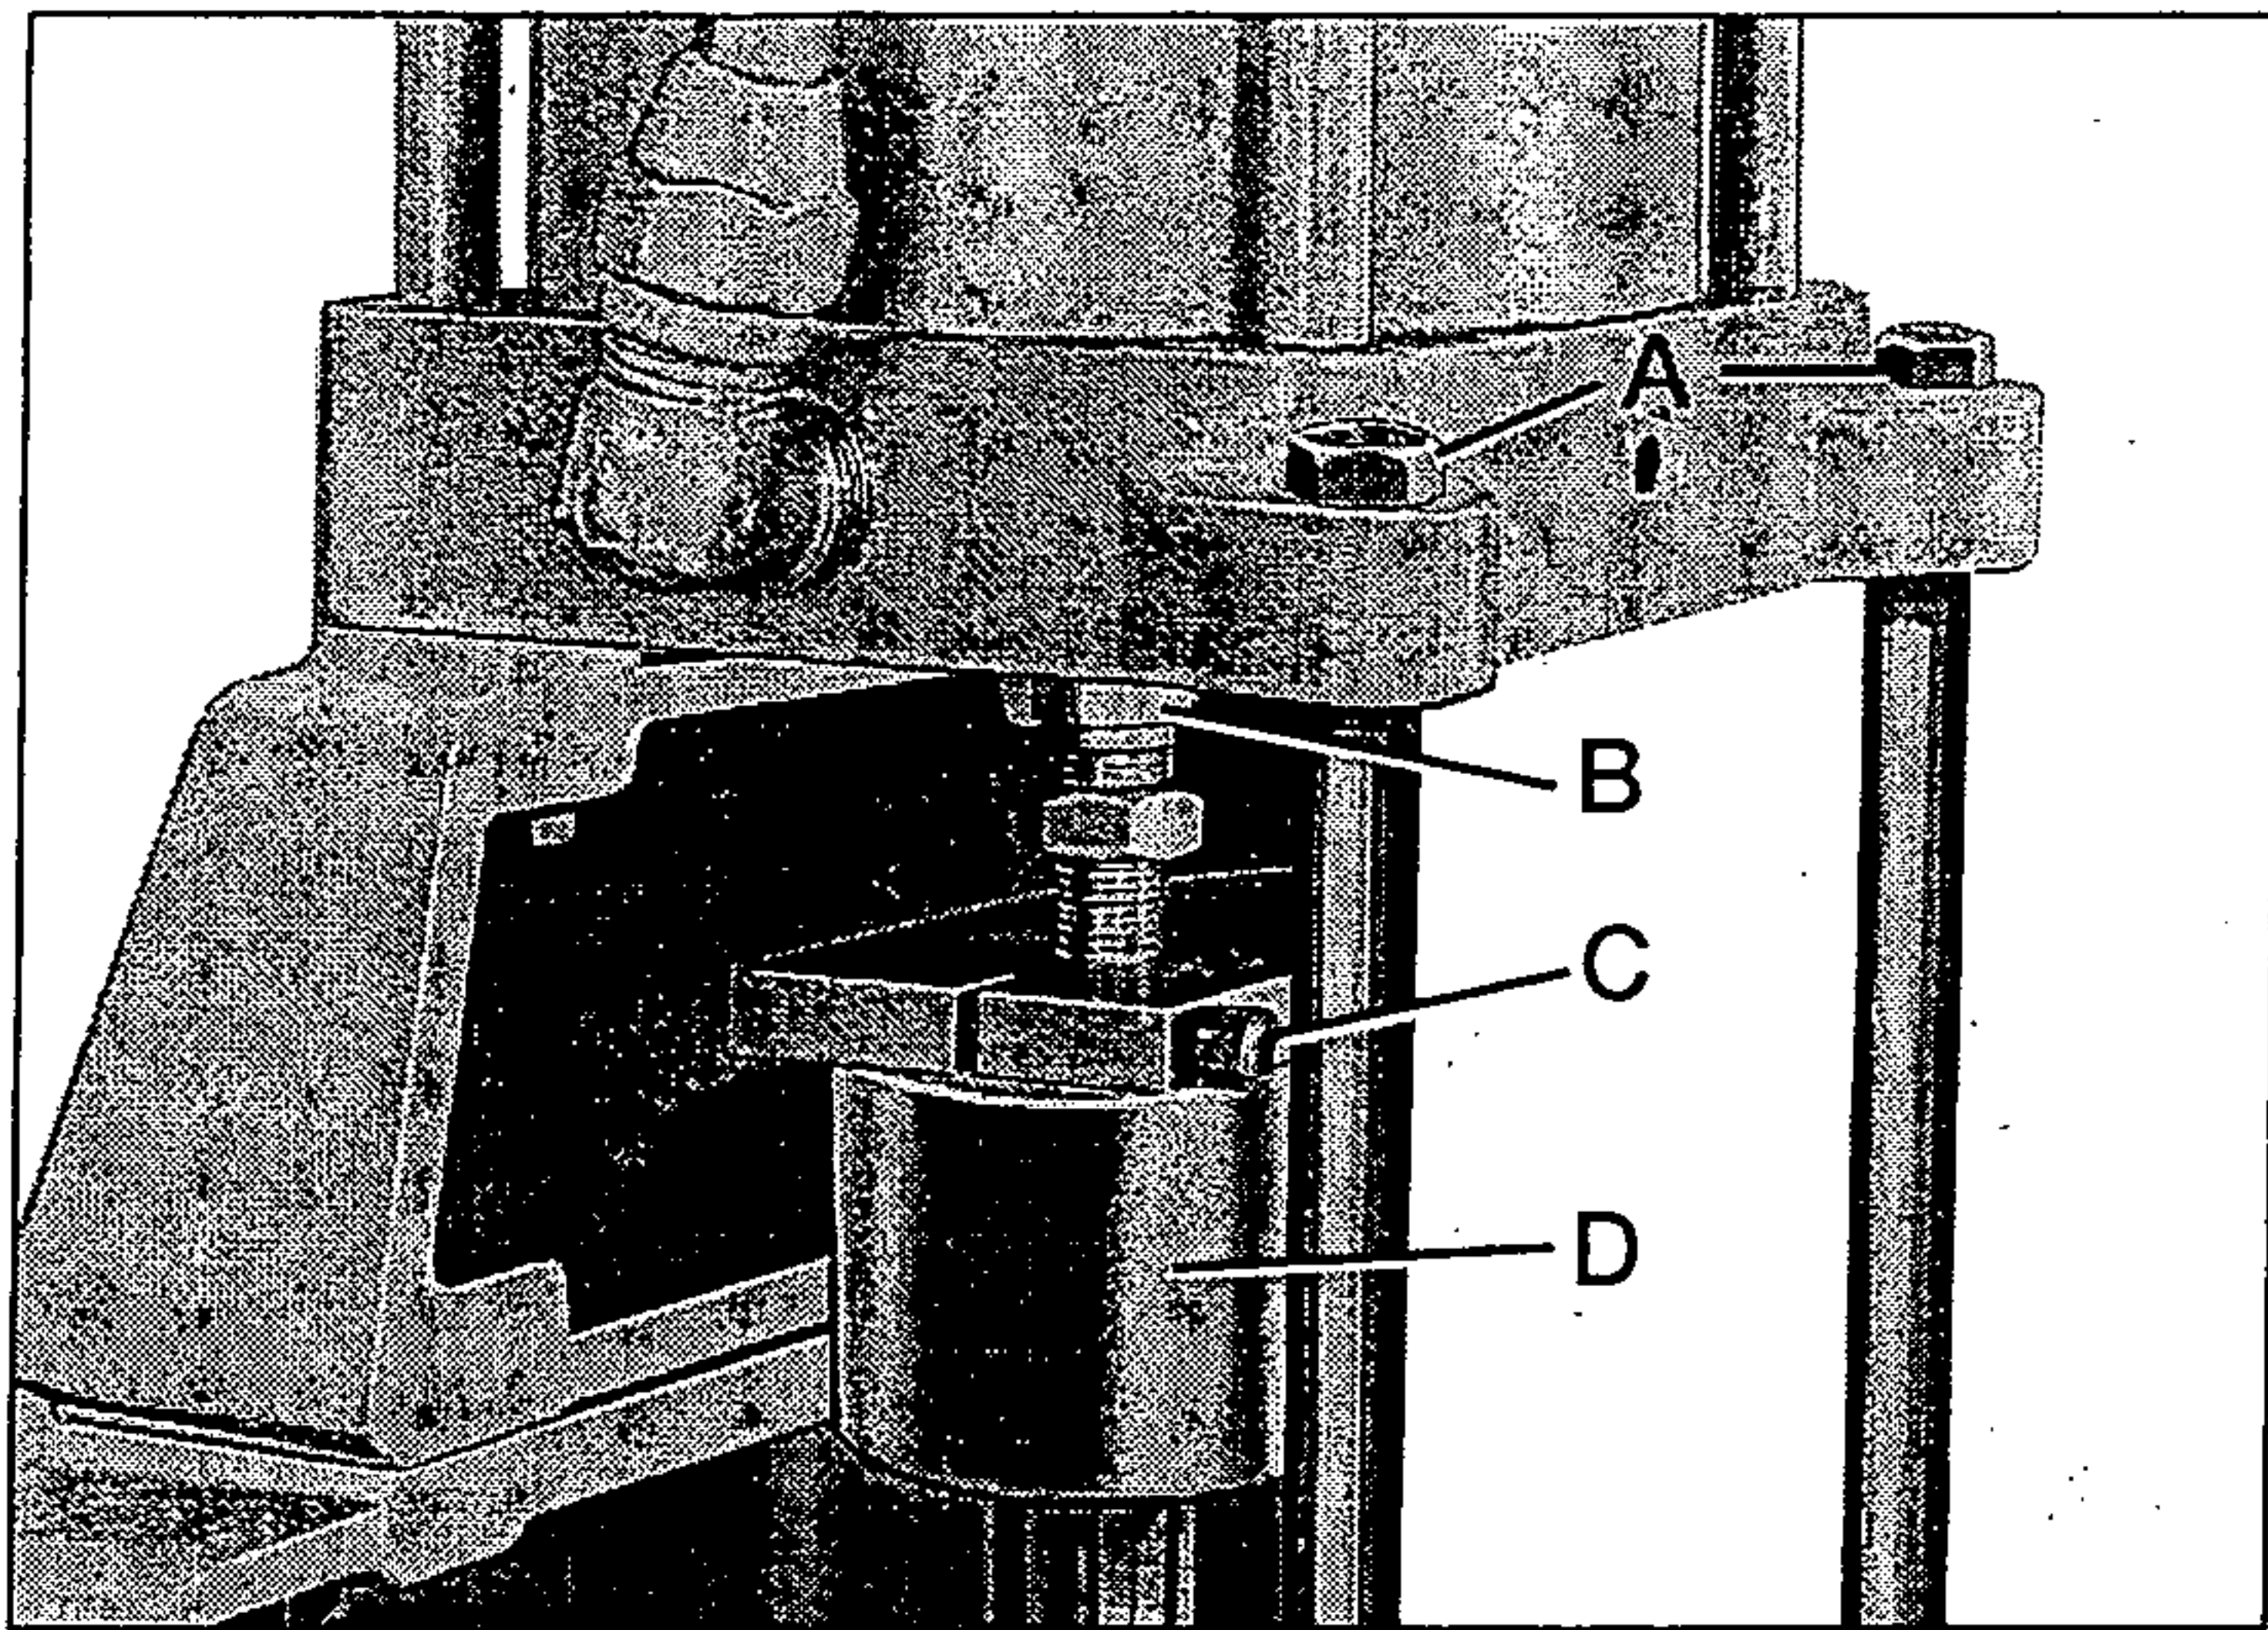

Figure 5
10. Unlock and move spindle up with feed handle until bearing housing (D, fig. 5) slides into piston rod mounting arm and contacts bottom of piston rod (B). Do not tighten arm screw (C).
12. Shift position of air feed assembly until piston rod (B) is in alignment with top of bearing housing (D) - alignment is correct when bearing housing screws freely onto piston rod.